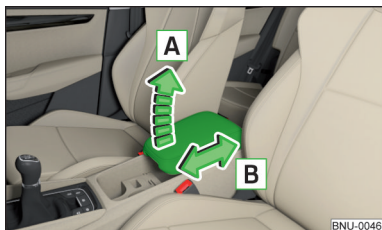

Fig. 83
- › To **adjust the height**, lift the armrest in the direction of the arrow **A** into one of the locking positions » Fig. 83.